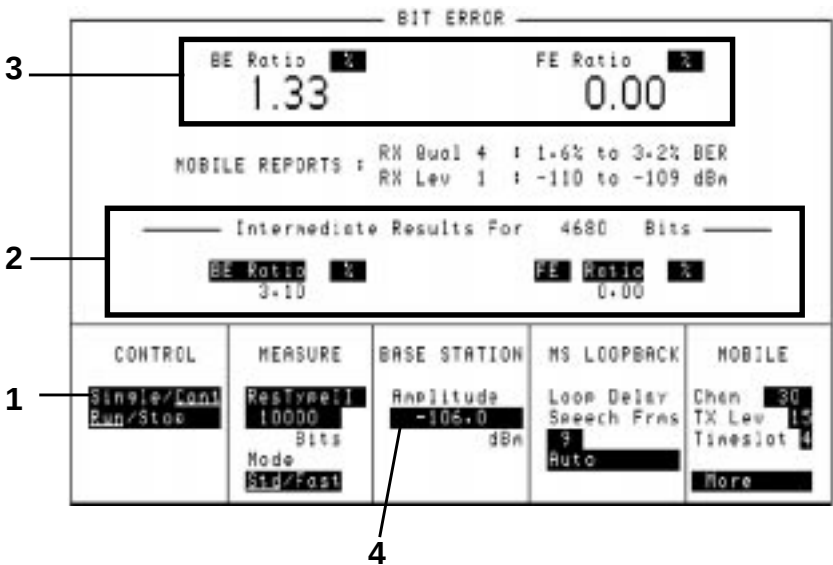

Figure 2-10
This test will run automatically if you set the **Single/Cont** field to **CONT**. To run a test set the **Run/Stop** field to **RUN**. This toggle field start/stops the BER test (1) ratio, see Figure 2-10 on page 2-19.